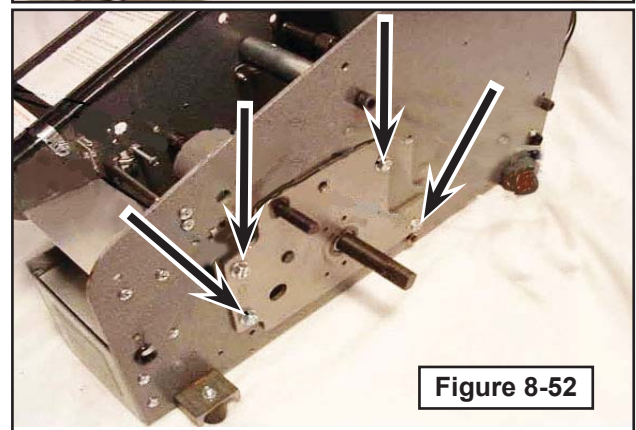

Figure 8-52
9. Remove bolts from gearbox/motor mount. (Figure 8-52).